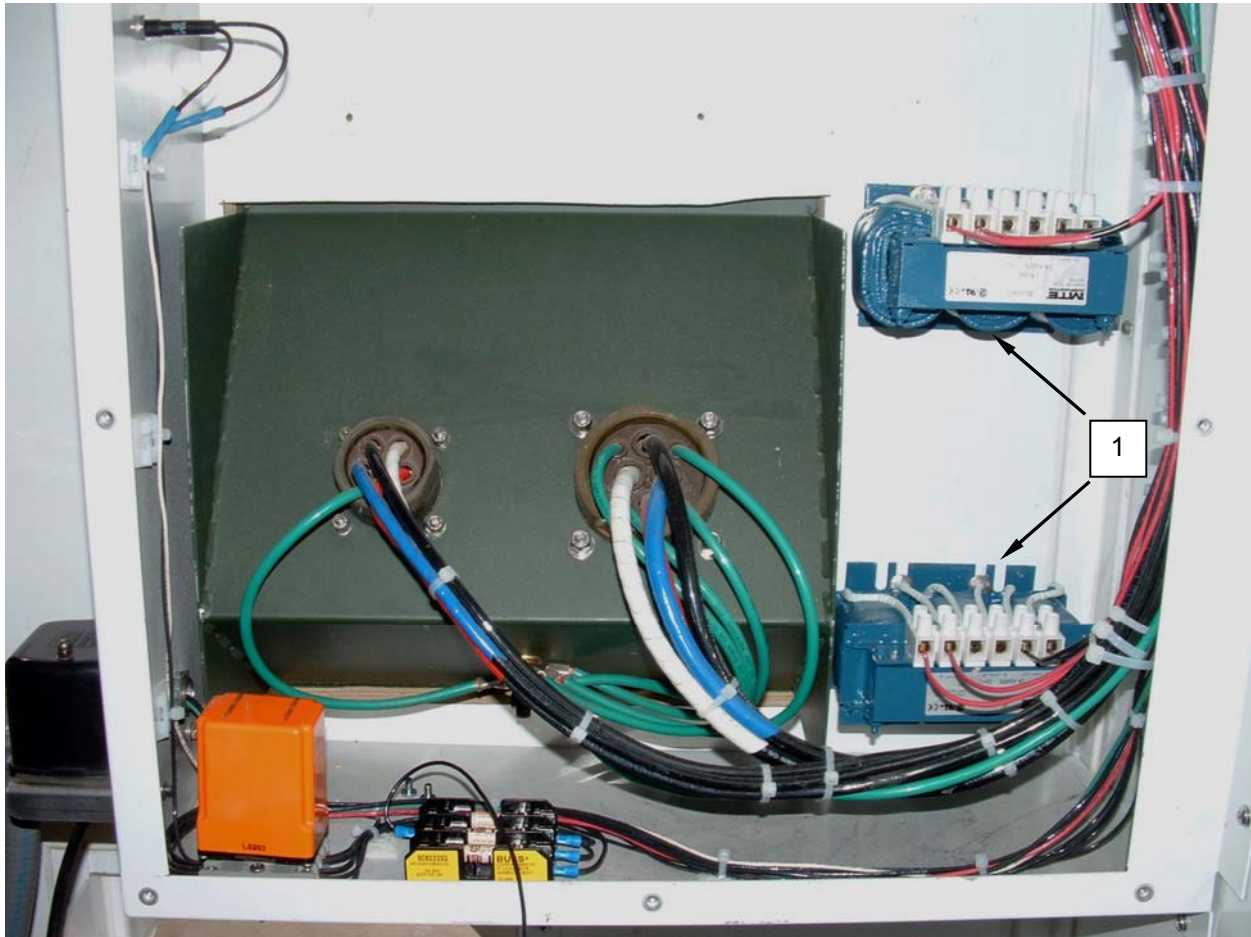

Figure 3. Replace the Line Reactors.
3. Tag and disconnect wiring from the line reactor (**Figure 3, Item 1**).
4. Remove screws and washers retaining the line reactor (**Figure 3, Item 1**) and remove the line reactor.
5. Install the replacement line reactor (**Figure 3, Item 1**) and retain with screws and washers.
6. Connect wiring to the replacement line reactor (**Figure 3, Item 1**) as tagged.